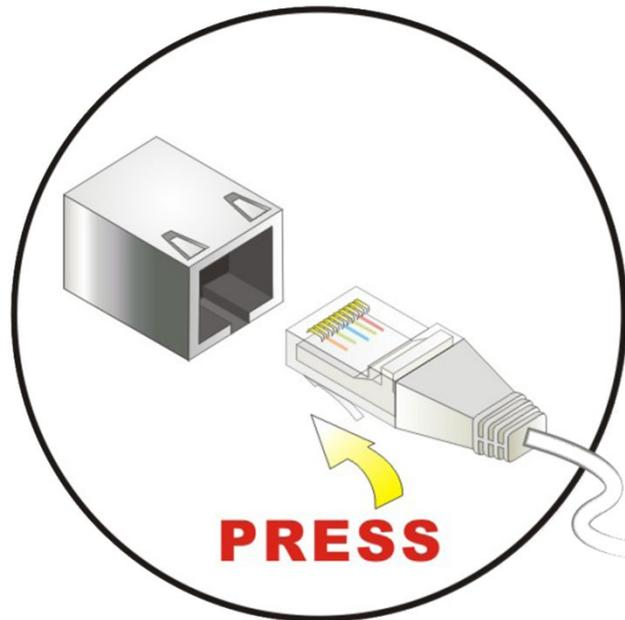

Figure 6 – LAN Connection
Step 2: Align the connector. Align the RJ-45 connector on the LAN cable with the RJ-45 connector on the bottom panel of the TSM810C. See Figure 6.